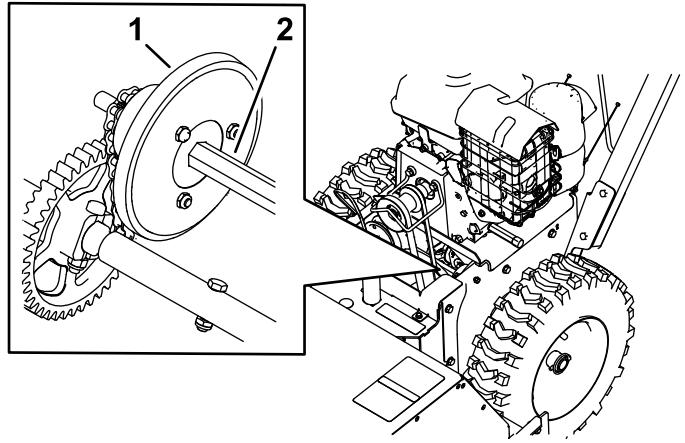

Figure 24
4. Dip a long, clean, small-tipped paint brush in automotive engine oil and lightly lubricate the hex shaft (Figure 24).
**Important:** Do not get oil on the rubber wheel or the aluminum friction-drive plate as the traction drive will slip (Figure 24).